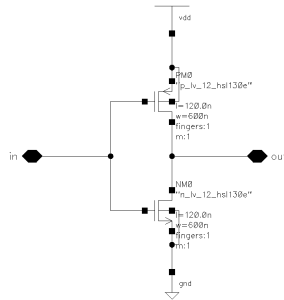

Figure 4: Inverter schematics. Your schematic should look like this.
7. Create the input- and output pins (*Add > Pin ...*). Choose input-output as direction. See Fig.4.